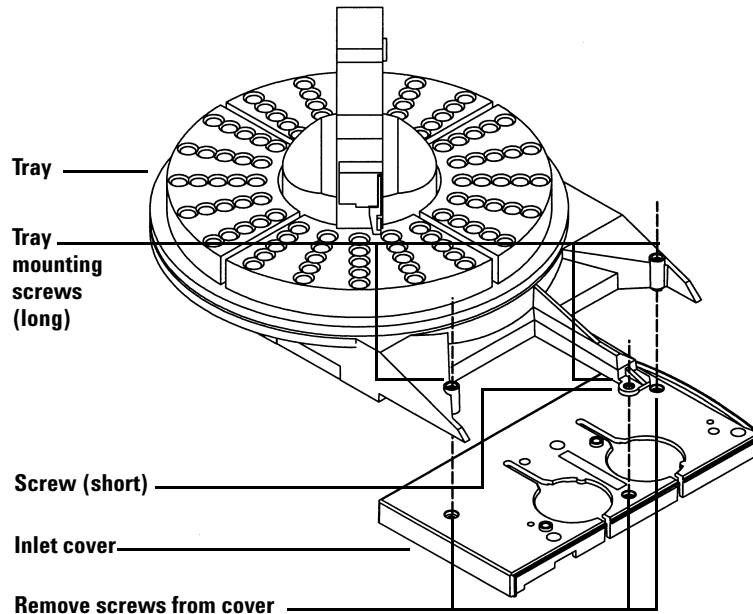

Figure 21 Installing the tray
- 1 Remove the three inlet cover Torx screws (Figure 21).